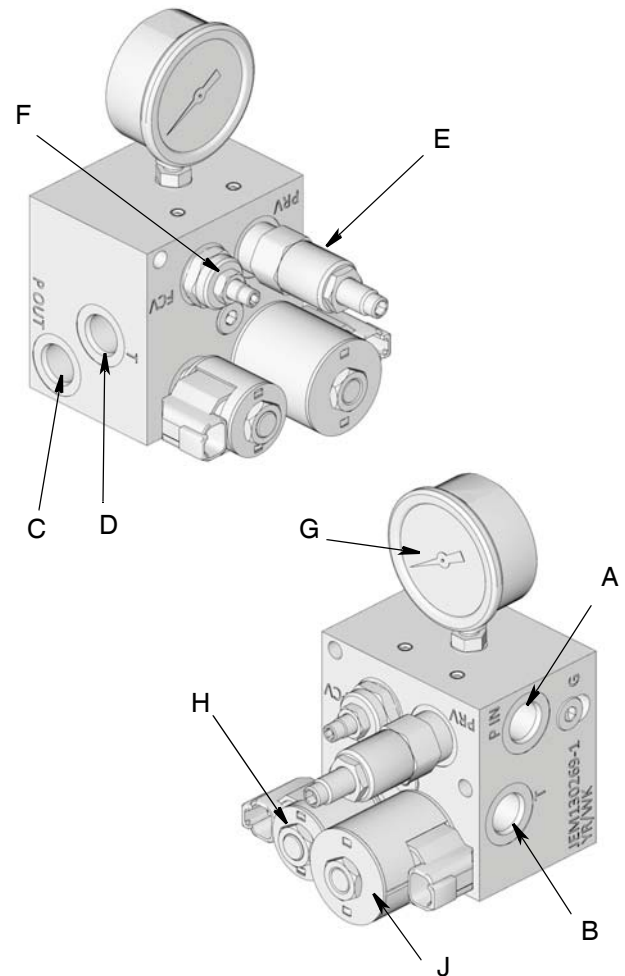

FIG. 72
1. Install hydraulic control (Graco PN 127224 - 12V or 127225 - 24V. See Miscellaneous Kits, page 50) (FIG. 72).
- a. Connect hydraulic power supply to hydraulic pressure inlet (A).
- b. Connect tank return hose to tank port (B).
- c. Connect hydraulic pressure outlet (C) to proper hydraulic motor inlet on reel for the desired rotation direction.
- d. Connect tank return (D) to remaining port on reel motor.
2. Wire switch to solenoids on hydraulic control module as shown in (FIG. 72).